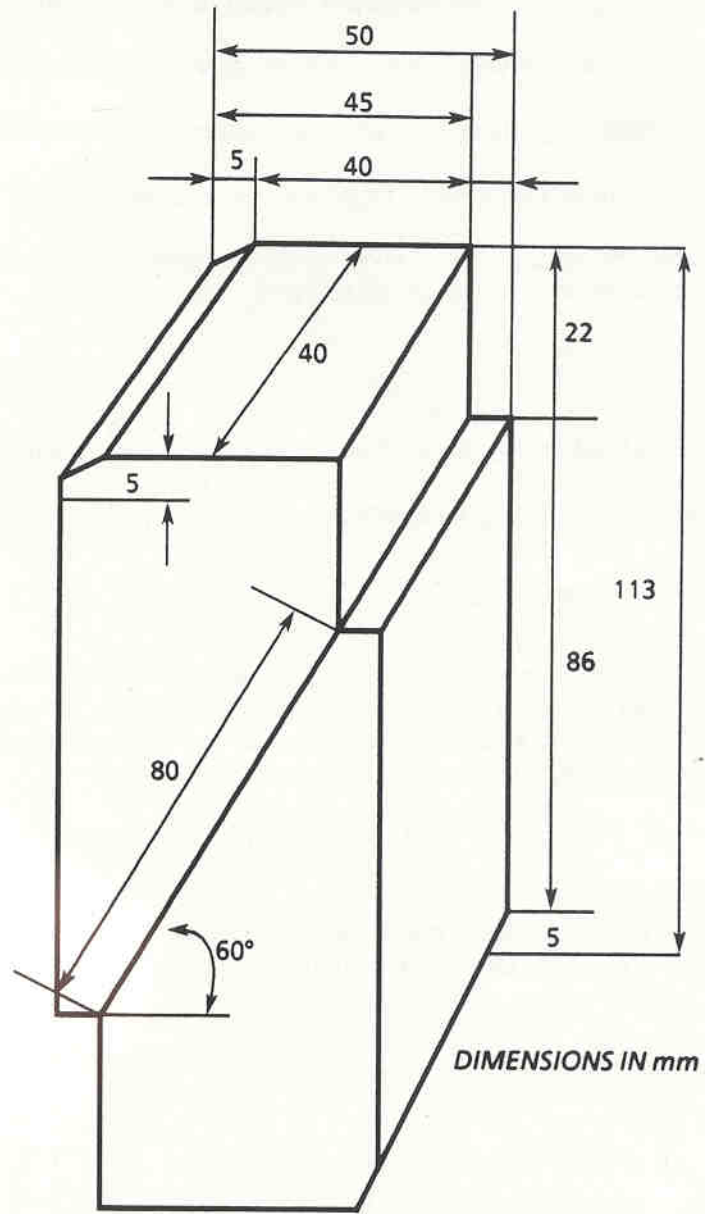

Fig. 1. Dimensions of steel blocks
- (a) Pairs of matched steel and matched concrete blocks-(as shown in Fig.1).